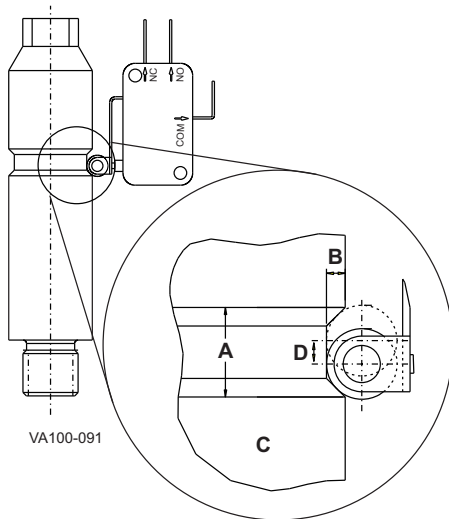

Figure 13: Detail of the Micro Switch Position for Divert Mode
Callouts for (Figure 13, item:
6. Remove and inspect the upper stem O-ring (Figure 13, item 6) in the top of the actuator cylinder.
8. Inspect and replace the PTFE guide bearing (Figure 13, item 5) in the actuator cylinder as needed.